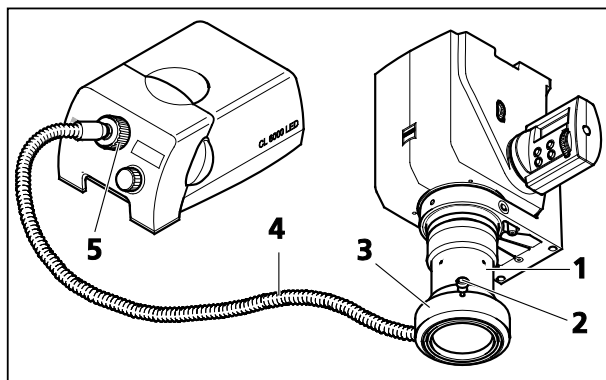

Fig. 16 Mounting the slit-ring illuminator
- Push the illuminating unit (Fig. 16/3) onto the objective (Fig. 16/1) from below until it engages and secure with the clamp screws (Fig. 16/2) provided.
- Insert the light guide input (Fig. 16/4) into the light guide receptor (Fig. 16/5) of the cold light source until it engages and secure with the knurled ring.
- Insert the light guide into the focusing attachment and secure; connect to the cold light source (see Fig. 16).